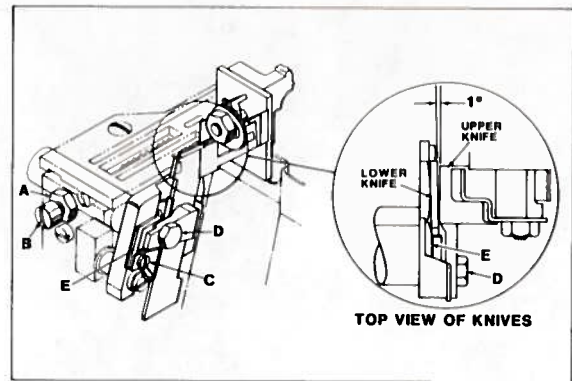

Fig. 22
The proper shear angle between cutting edge of upper and lower knives is 1 degree as shown in Fig. 22. This results in a cutting action similar to that of a pair of scissors. Best results are obtained if both knives are sharpened correctly prior to adjusting.
If adjustment is required, loosen locknut (A, Fig. 22) and lock lower knife holder out of position away from upper knife with screw (B).